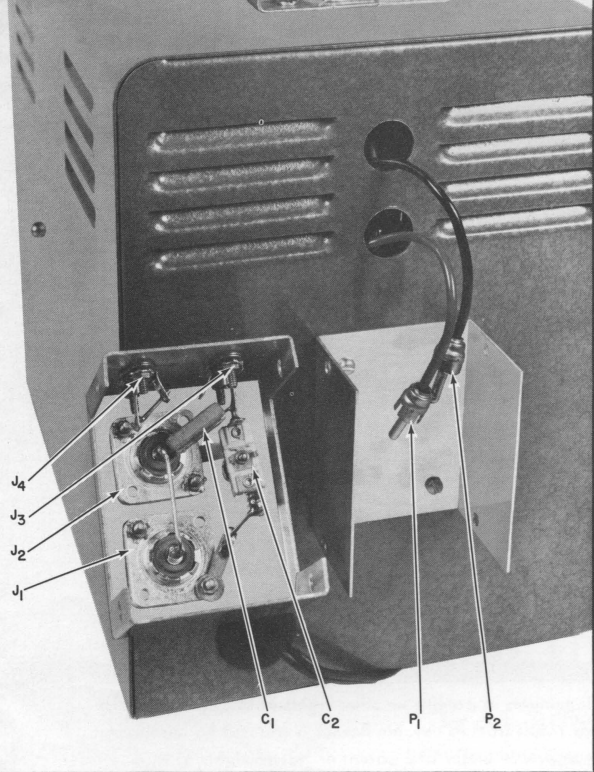

Figure 3: Open halves of RF sample-box showing wiring and mounting detail.
The builder is advised to follow closely the layout and assembly configurations shown in Figures 3 and 4. Length of the leads from J_3 and J_4 to the "V"-plate connections should not exceed 5 inches. A suggested step-by-step procedure for construction of the sample-box is as follows:
3. Using Figure 3 as a reference, locate the proposed positions on the rear of the oscilloscope case for the two mounting screws (#6 S.T.) of the sample-box. After drilling and punching the $\frac{5}{8}$ -inch holes, attach the bottom half of the sample-box to the case, making certain that the screws will not short out any components of the chassis. Then attach the "snap-on" top portion.